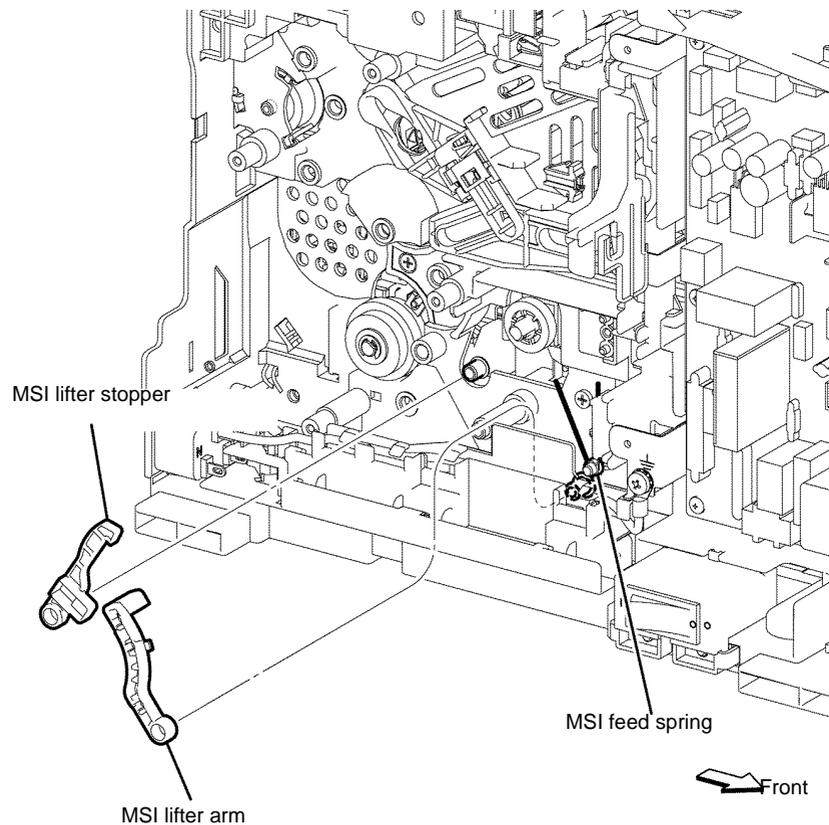

Figure 3 MSI lifter arm and lifter stopper removal
23. Release the MSI feed spring from the MSI lifter arm, then remove the MSI lifter arm and MSI lifter stopper, Figure 3.